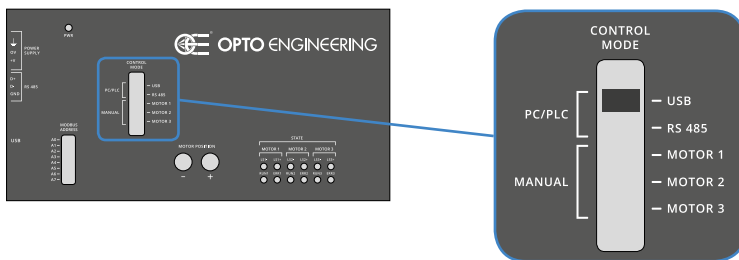

Figure 6: Control mode slider
The MTDV3CH-00A1 can communicate with a PC or a PLC using two different serial ports: USB or RS485. USB and RS485 cannot be used simultaneously: only one serial communication port at a time can be used select RS485 or USB by moving the control mode slider (see Fig. 6).
- move the slider to USB position (see Fig. 6).